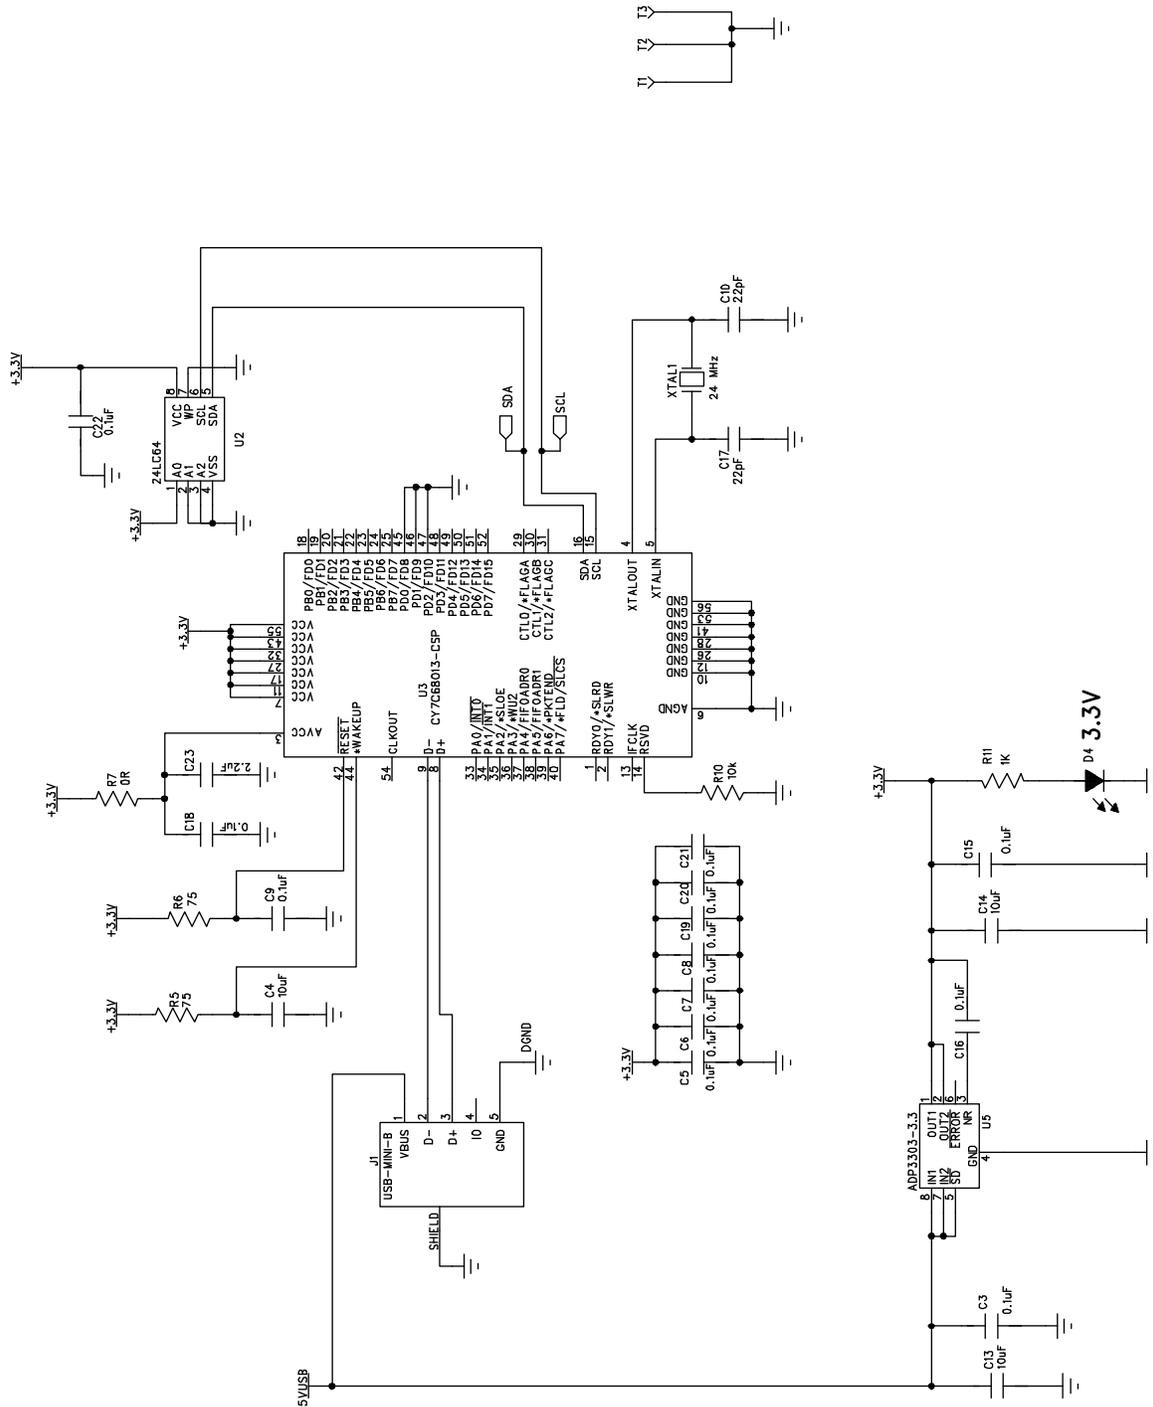

Figure 5. Schematic of USB Controller Circuitry
1. Use the reset button on the board itself (see $\overline{\text{RESET}}$ in Figure 5).